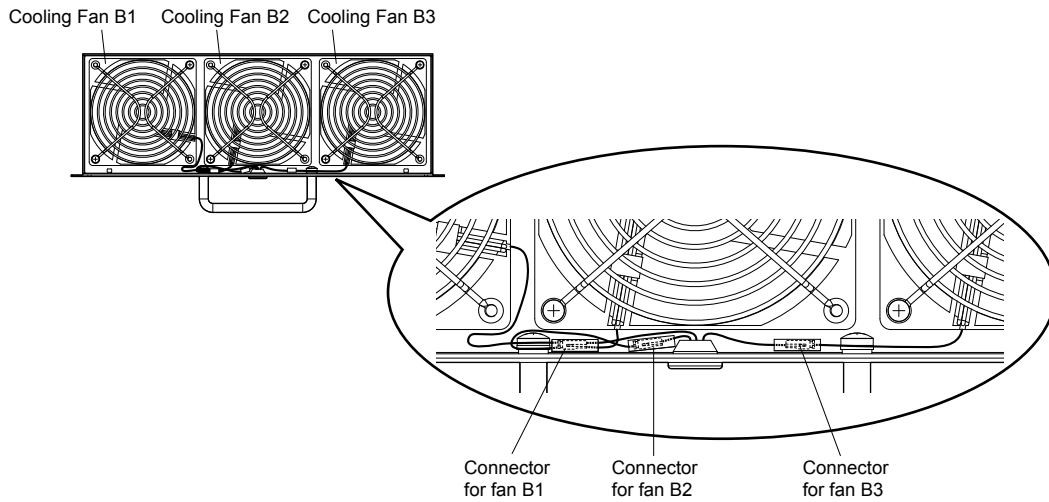

Figure 7.31 Cooling Fan Wiring: 4A0414
2. Place the fan connector covered by the tube as shown in Figure 7.31.